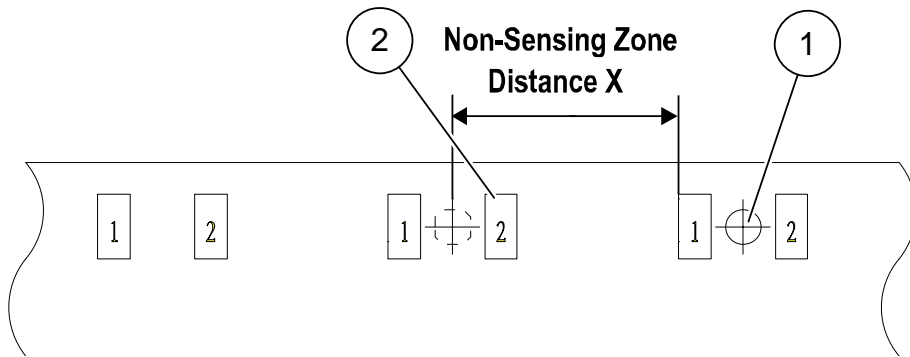

Figure 7-58 Non-Sensing zone
Step 3: Set the "Non-Sensing Zone" to the value of X shown in Figure 7-58; (Step c in Figure 7-57)
For example, if material belt stays at the position shown in Figure 7-58 and "Non-Sensing Zone" is set to X, then the rectangle detected within the distance X is invalid after rectangle 1 is detected.